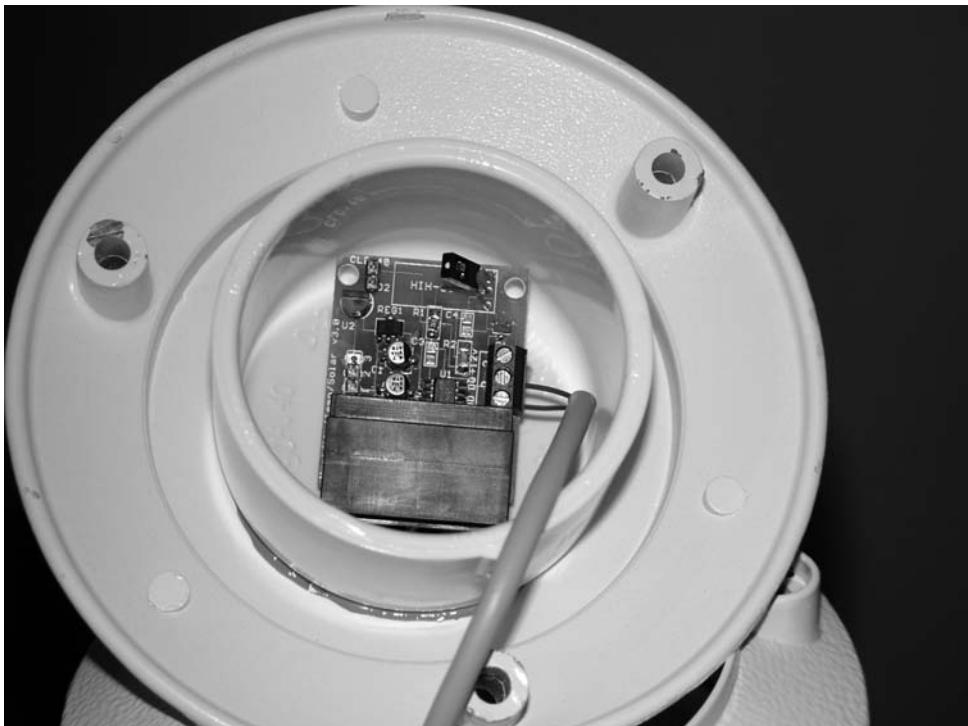

FIGURE 11-8: Mounting the temperature and humidity module.
6. Once the paint is dry, you will need to decide how to mount the temperature module inside the pagoda. Because blowing rain can enter your pagoda, you should provide some protection for your module. Figure 11-8 shows a 1½-inch PVC cap glued to the top of the pagoda to block rain and snow from reaching the board. Use Velcro to attach the module inside the cap. This scheme provides good air circulation around the sensors, but prevents access to the RJ-45 connectors, so the screw terminals must be used instead. For added protection, coat the board with a waterproof coating and install a sock over the humidity sensor element as described later in this chapter.